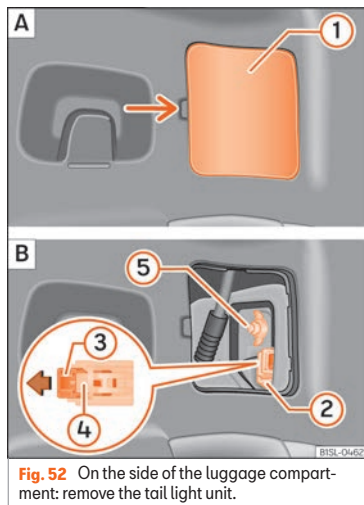

Fig. 52 On the side of the luggage compartment: remove the tail light unit.
- Remove cover ① by carefully levering it » » Fig. 52 [A].
- Pull lock ③ on connector ② in the direction of the arrow » » Fig. 52 [B]. Help yourself with the screwdriver from the vehicle tool kit.
- Press fastener ④ and remove connector ② » » Fig. 52 [B].
- Unscrew wing nut ⑤ » » Fig. 52 [B].
- Hold the tail light in the installation position with one hand and tighten the wing nut with the other hand ⑤ » » Fig. 52 [B].
- Insert connector ② into the bulb holder and press lock ③ on the connector in the direction opposite to the arrow » » Fig. 52 [B].